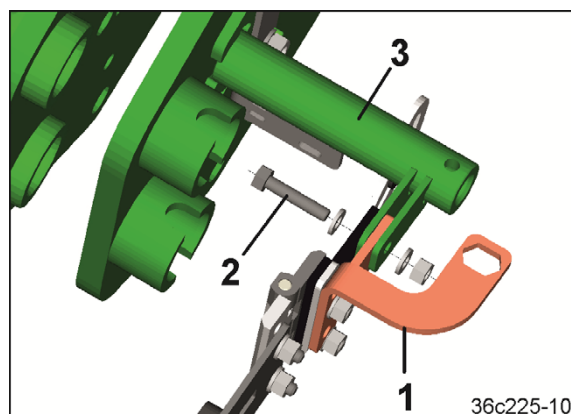

Fig. 116
6. Bolt the section (Fig. 116/1) with a hex. bolt (Fig. 116/2) onto the holder (Fig. 116/3).